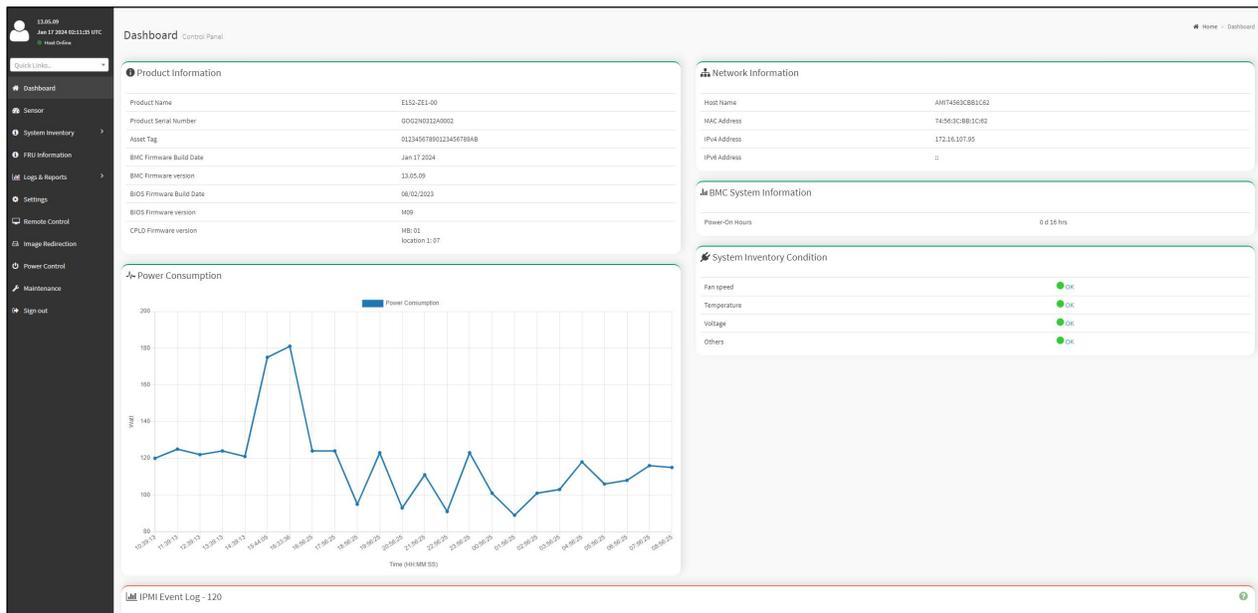

Figure 6-5: IPMI Web Page
12. The web page shown in Figure 6-5 should appear.